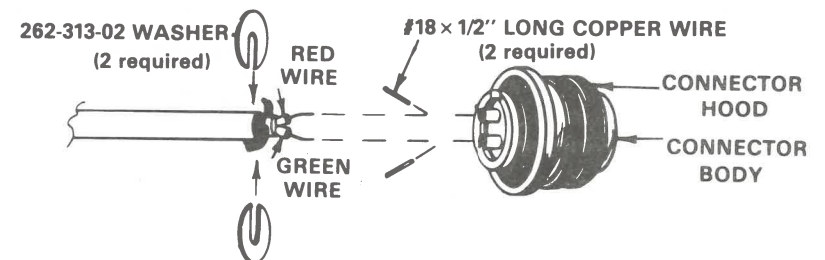

Figure 3. Crimping Cable to Connector
- E. Using the supplied cleaning pads, clean approximately one inch of the No. 18 gauge untinned solid copper wire (bare only). Cut the wire in $\frac{1}{2}$ inch pieces and insert them into each gold pin. Double crimp each pin. Refer to Figure 3.
- F. Using the supplied cleaning pads, clean approximately one inch of the No. 18 gauge untinned solid copper wire (bare only). Cut the wire in half and insert one half into each gold pin of the low thermal connector (see Figure 3). Crimp the center conductor to pin A of the low thermal connector. Crimp the inner shield to pin B of the low thermal connector.